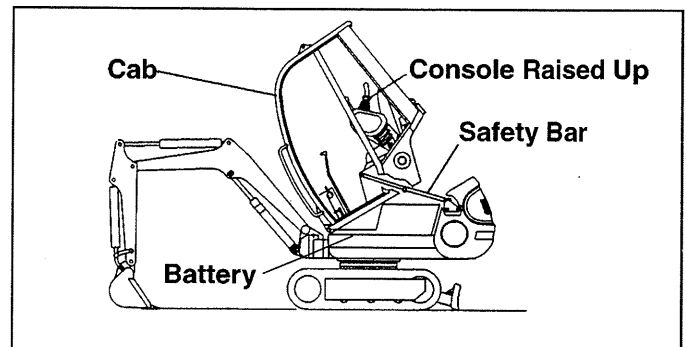

Figure 4-9. Raising Cab to Access Battery
1. The battery is located under the cab on the left side. To access the battery, open the engine cover and loosen bolts securing cab. Tip cab forward and secure safety bar (Figure 4-9).
2. To access the battery, open the engine cover and loosen bolts securing cab. Tip cab forward and secure safety bar (Figure 4-9).